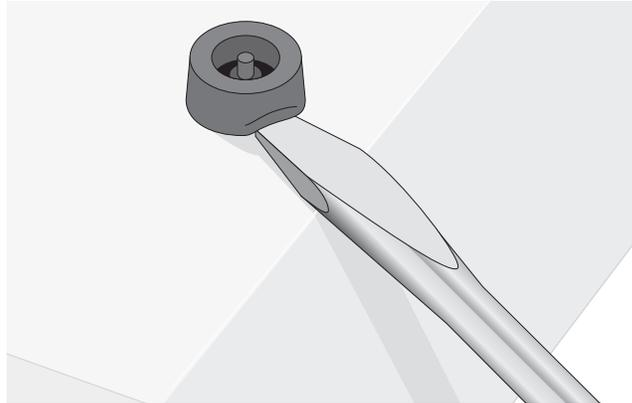

Figure 10. Removing the Feet
2. Using a flat-head screwdriver, remove the snap-on plastic feet from the bottom of the switch, as shown in Figure 10.